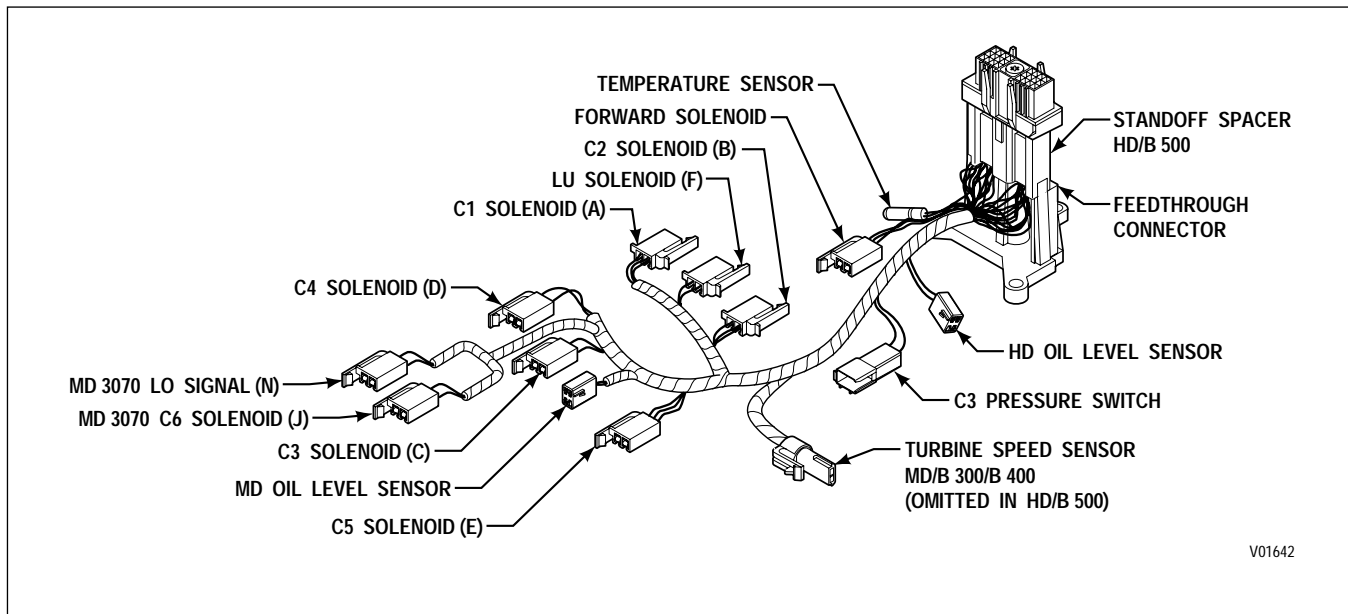

Figure 1-12. WTEC II Internal Wiring Harness (Units Produced Before 9/94)
B. Internal Wiring Harness (Figures 1-12, 1-13, and 1-14)